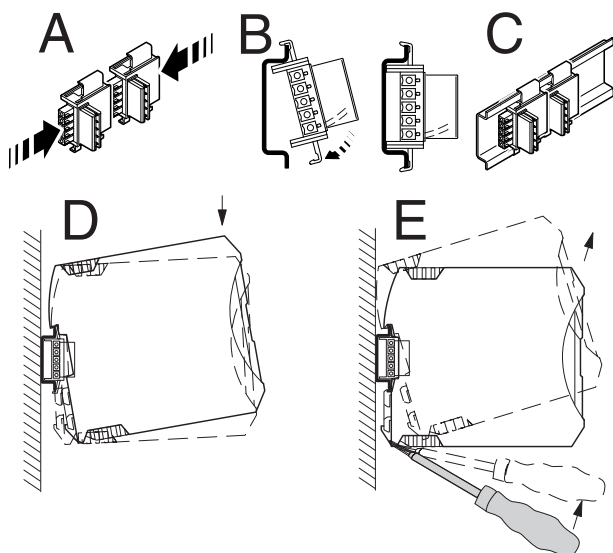

Figure 6 Mounting and removing
- When using the DIN rail connector, first insert it in the 35 mm DIN rail according to EN 60715 (see Figure 6, A - C).